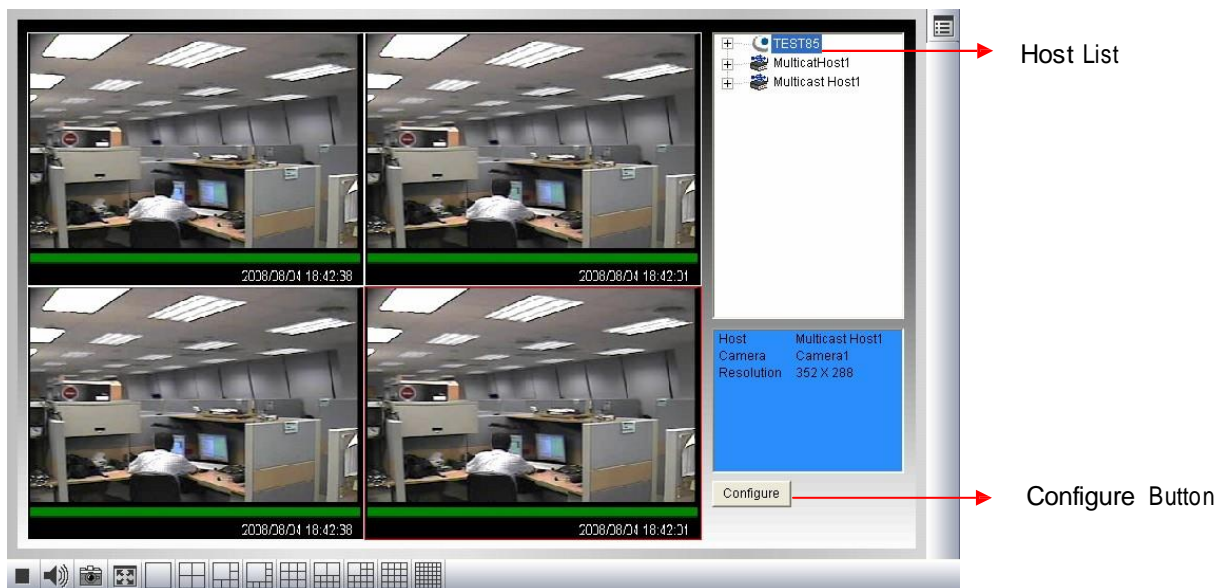

Figure 8-49
2. On the left panel, select **Live View** and select **Multicast**. The Multicast Viewer (Figure 8-49) appears.
1. Click the **Multicast** button (No. 16, Figure 8-35) on the Multi View screen. The Multicast Viewer (Figure 8-49) appears.